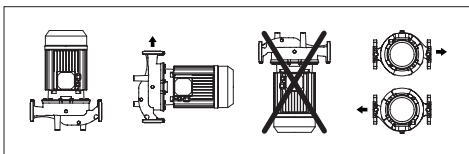

FIG 2: Installation of motor $\leq 7.5kW$ 2 pole and $\leq 1.1kW$ 4 pole
- The pumps can be installed on delivery or return pipes and in horizontal and vertical position, provided the motor is never placed below the pump to avoid water leakage into motor or bearings.(FIG 2) (Note that vertical installation is possible for $\leq 7.5kW$ 2 Pole and $\leq 1.1kW$ 4 pole units)